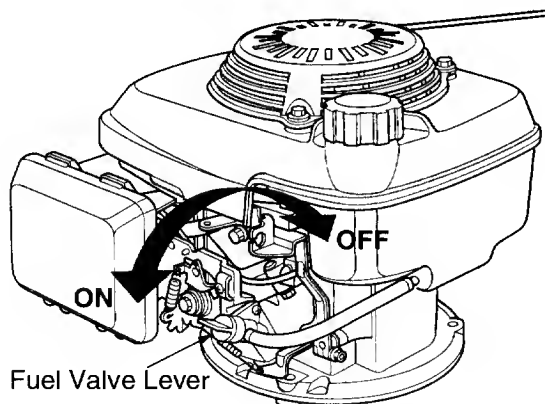

Figure 8
- Make sure the fuel valve lever found on the left side of the engine is in the ON position. See Figure 8.